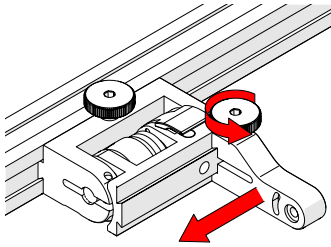

Fig. 187 - Position swing arm
5. Loosen the swing arm knob and slide the swing arm to the opposite end of the probe holder bracket (*Fig. 187*) or preferred position. Tighten swing arm knob.